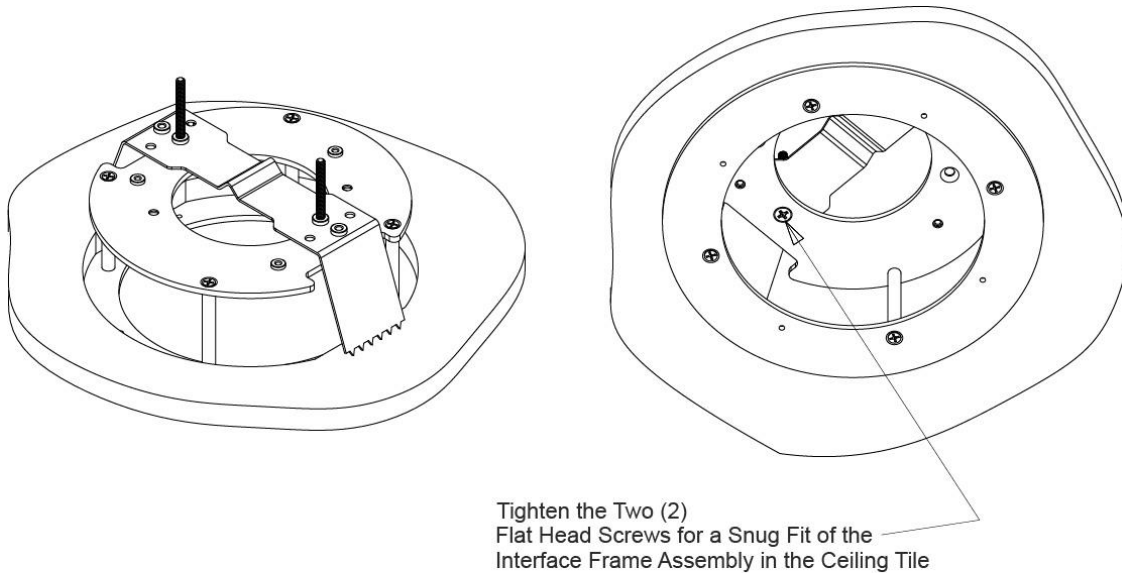

Figure 4
4. Install the interface frame assembly/in-ceiling bracket into the hole in the ceiling by placing one edge of the mounting bracket over the top edge of the hole. Slide the assembly to the side and rotate the assembly into the hole with the bracket at full extension of the mounting screws. The mounting bracket will rotate into place. Position the interface frame assembly over the center of the hole and tighten the screws uniformly in the top of the bracket for a snug fit. This secures the bracket into the ceiling for a proper fit; no need to over-tighten. Refer to Figure 4 for the installed position.